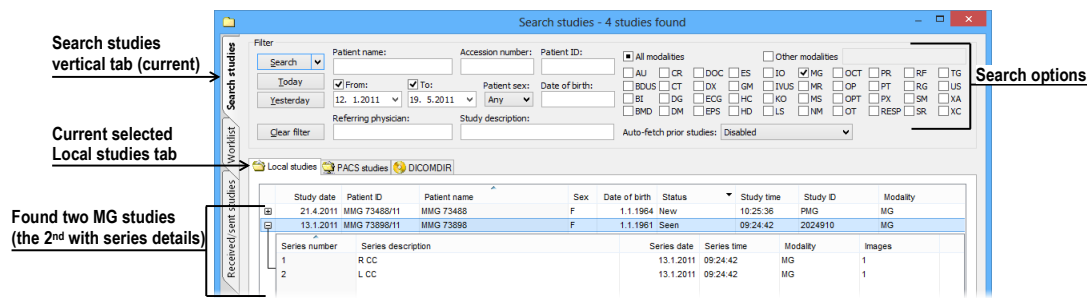

Figure 415 – Opened patient study from the Local studies
- Finding and opening a required study stored in the local studies of TomoCon (see Figure 415) by taking the following steps: